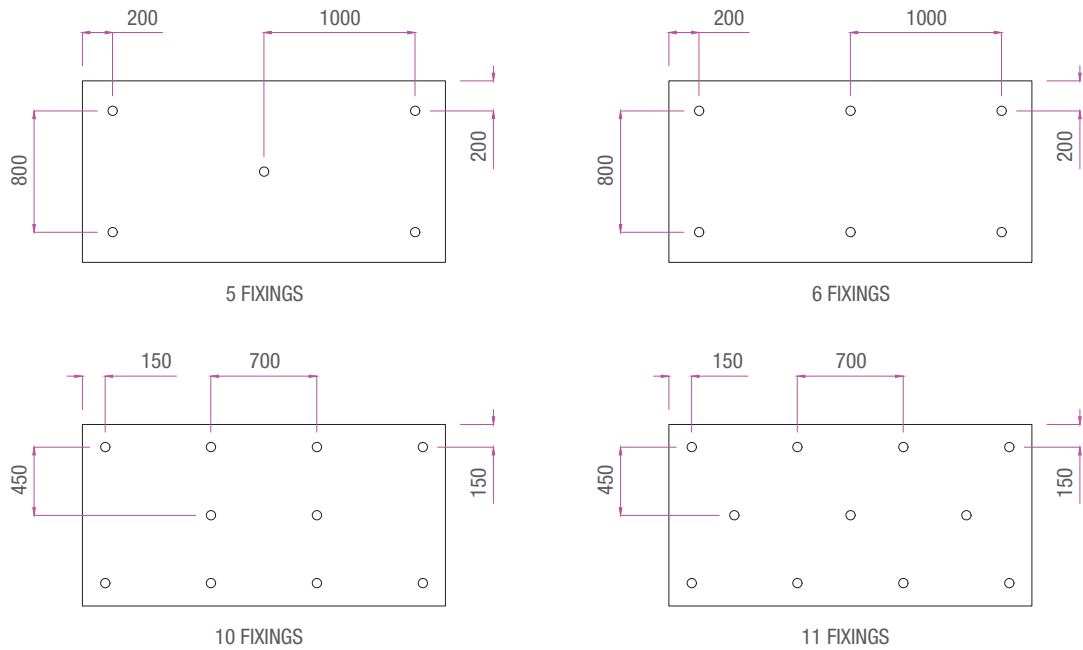

Figure 1.1. Fixing Arrangement of MetecnoTherm®
- A. MetecnoTherm® Panels can be used to line soffits and walls. There are several options for fixing the panels directly to concrete slabs/block walls. These fixing patterns are shown in figure 1.1. The optimum number of fixings needs to be selected based on the internal pressure, fixing capacity and the panel thickness. The maximum "span over deflection" ratio under serviceability wind load has been limited to 150.
- B. As shown in figure 1.1, the minimum number of fixings per panel can vary from 5 to 11. Ideal fixing combinations of 5, 6, 10 and 11 have been selected based on full scale testing. Having determined the Ultimate Limit State (ULS) wind pressure on the panels and the required design capacity of the fasteners the most suitable fixing pattern for a given panel thickness can be selected from Table 1. Refer Figure 1.1 for fixing intervals and edge distance. Contact Metecno® for higher pressures and any other deviations.